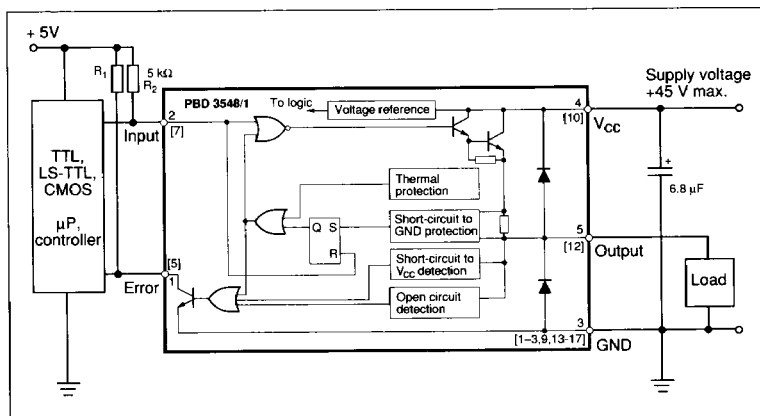

Figure 19. Typical application. Pin numbers refer to TO 220 package.
3. Connect Input and Error via pull-up resistors to the appropriate logic supply level or V_{CC} to obtain highest noise immunity. See figure 19. The resistor R_1 limits the current into the Error indicat-